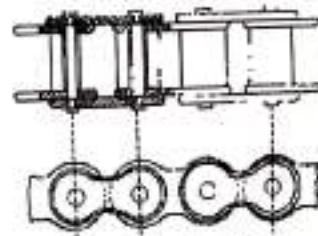

Fig. 2.13. Roller chain
- Roller Chain: Refer Fig. 2.13. It consists of rollers, bushes, pins inner plates and outer plates. The pin passes centrally through the bush and the roller surrounds the bush. The roller turns freely on the bush and the bush turns freely on the